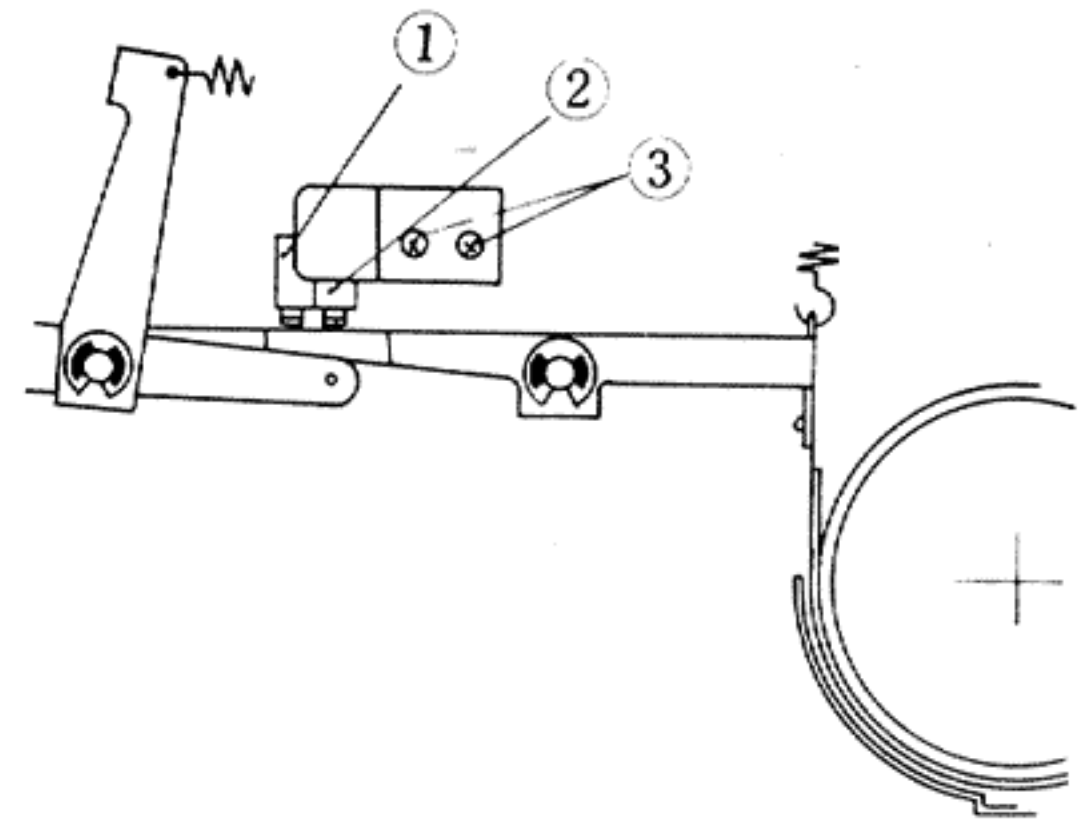
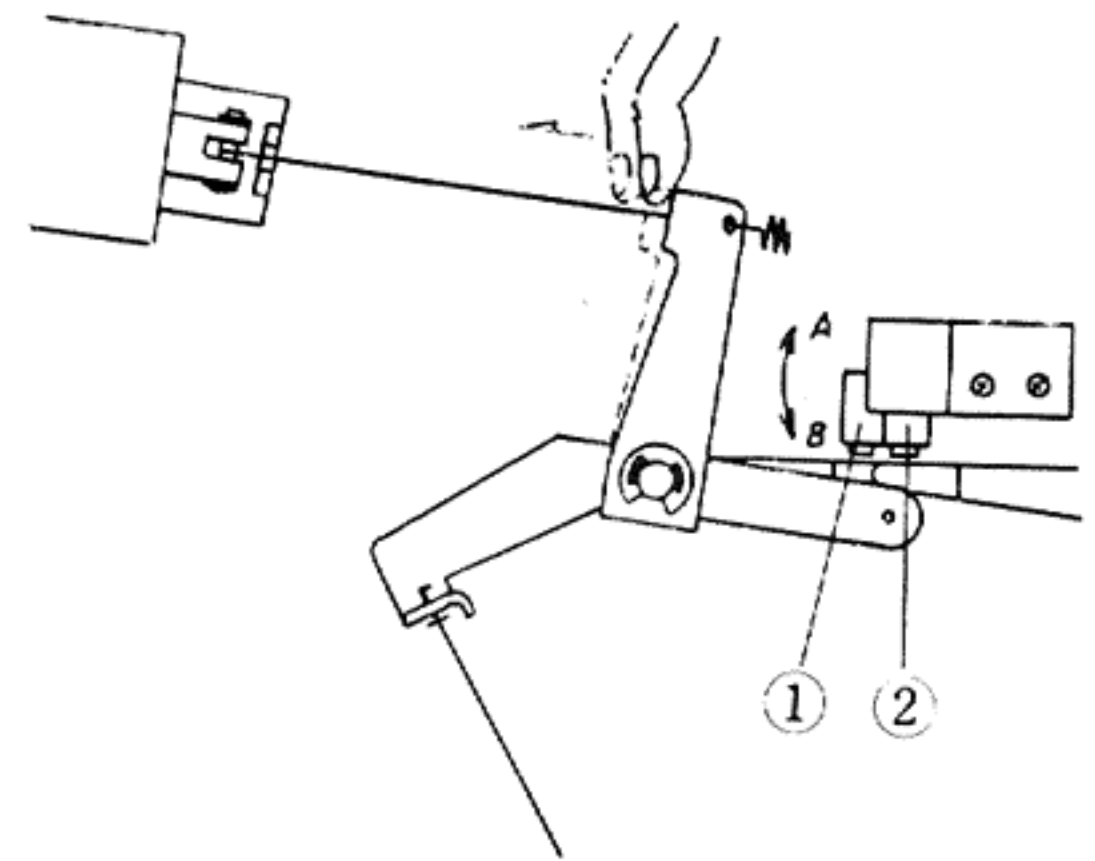
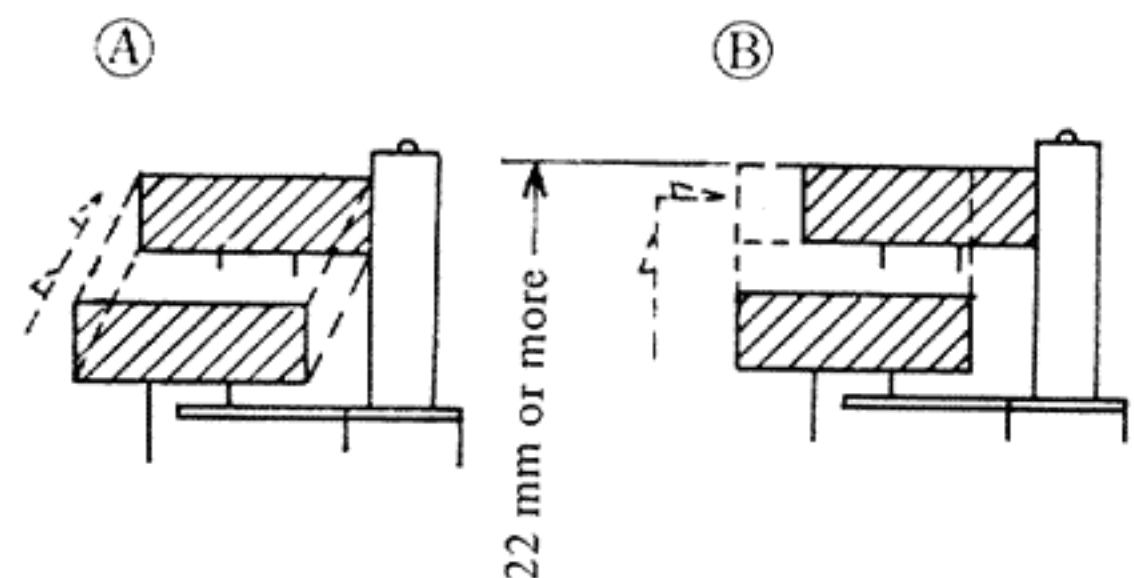

Fig. 14
Fig. 15
Fig. 16
### 1. Adjusting the switches (Fig. 14)
Fig. 14 shows the auxiliary circuit selector switch ① for back tension during fast winding and braking while stopped. Switch ② is for adjusting the timing of the pinch roller contact. The timing of switch ② is very important, as the tape may be damaged if adjustment is improper. Adjust as follows.
- (1) Set in the playback mode.
- (2) Loosen the screws ③ in Fig. 14, adjust switches ① and ② to ON and temporarily stop.
- (3) Set in the stop mode, then set in the playback mode to check the operation of the pinch roller.
- (4) Set in the stop mode. Then while pushing the brake lever with the fingers, set in the playback mode. Slowly releasing the finger pressure, check the pressure of the pinch roller. (Refer to Fig. 16) If the pinch roller rises as shown in (A) of Fig. 16, the operation of switch ② is too fast. Consequently, it is necessary to delay the timing so the switch ② operates just before the brake completely releases. Adjust by moving the switch ② in the direction of arrow A in Fig. 15. Adjust the pinch roller so it is 22mm or more above the mount plate just before contact.